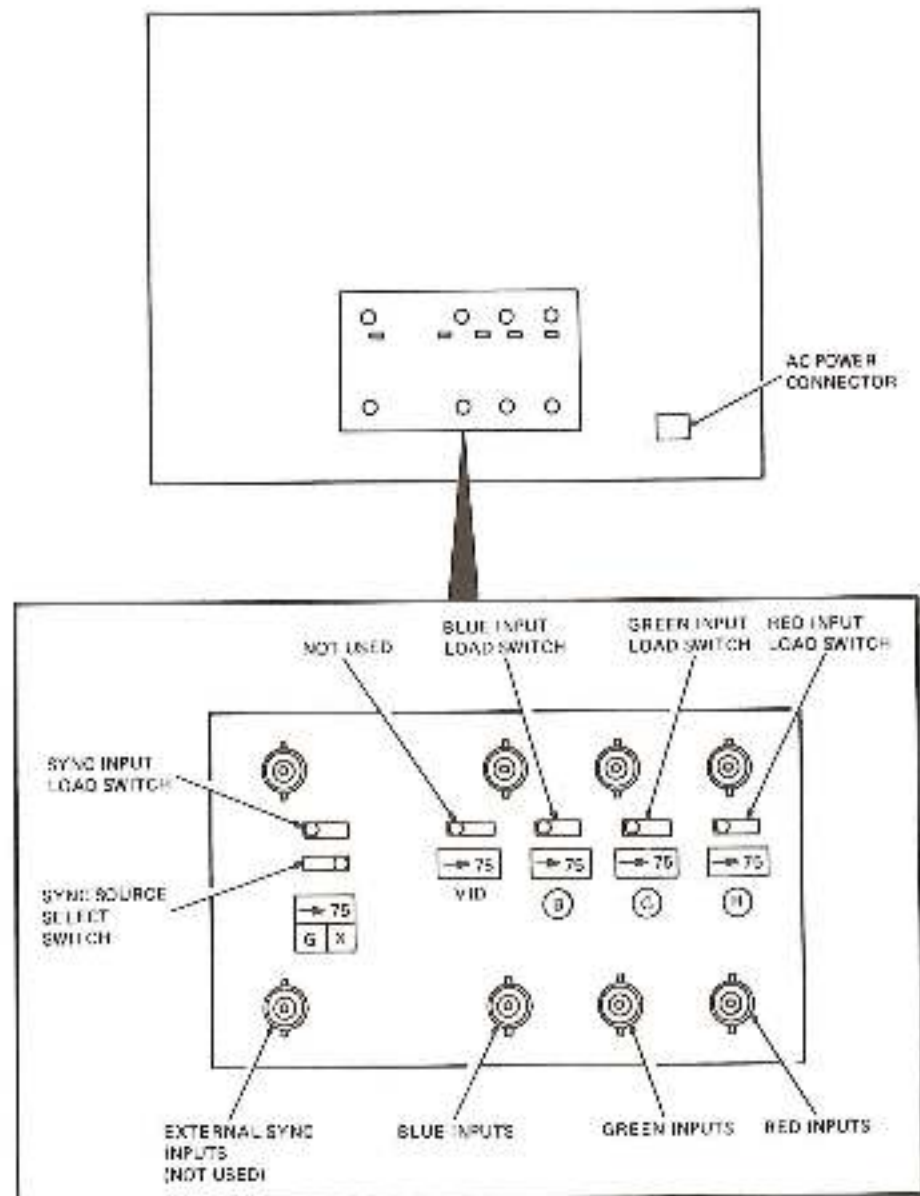

FIGURE 2-7 Barco Model GD33 Monitor Connections
3. Connect the color-keyed red, green, and blue cable connectors to the RED, GREEN, and BLUE input connectors on the rear of the Barco Model GD33 monitor (Figure 2-7).